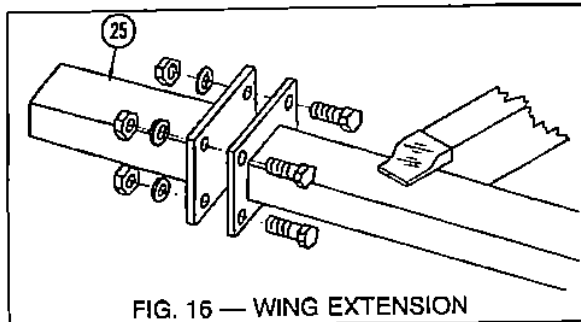

FIG. 16 — WING EXTENSION
6. Wing Extension: (See Fig. 16)